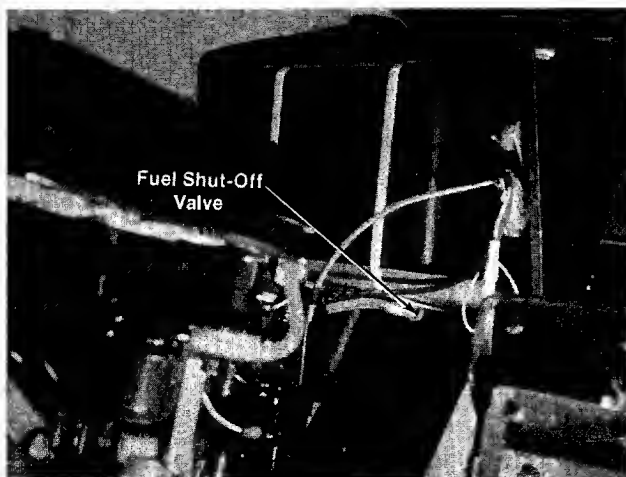

FIGURE 27.
2. Close the fuel shut-off valve located under the gasoline tank. See figure 27.